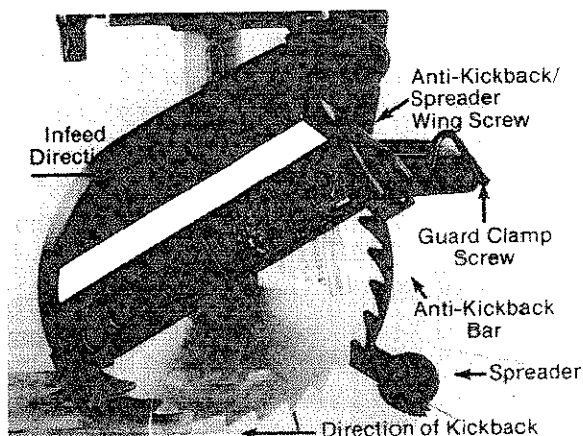

Fig. 103 - Blade Guard Position for Ripping
6. Loosen the guard clamp screw and rotate the guard until the guard nose just clears the workpiece. Figure 103